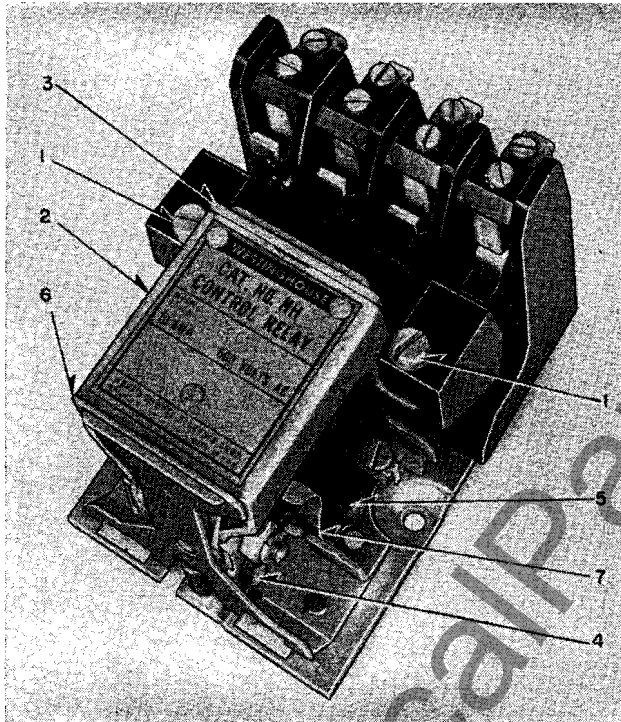

FIG. 1. Cat. No. NH Control Relay
Changing Coils. (Refer to Fig. 1) — After disconnecting leads to coil terminals, remove crossbar mounting screws (1) and remove crossbar assembly complete with moving contacts. Next, disengage armature bracket (2) from upper bearing arm (3) by applying pressure with thumbs to upper part of nameplate until the tongue on the bearing arm is freed from the hole in the armature bracket. The armature bracket (2) can then be swung outward and downward until the center leg of the armature (4) clears the coil (5).